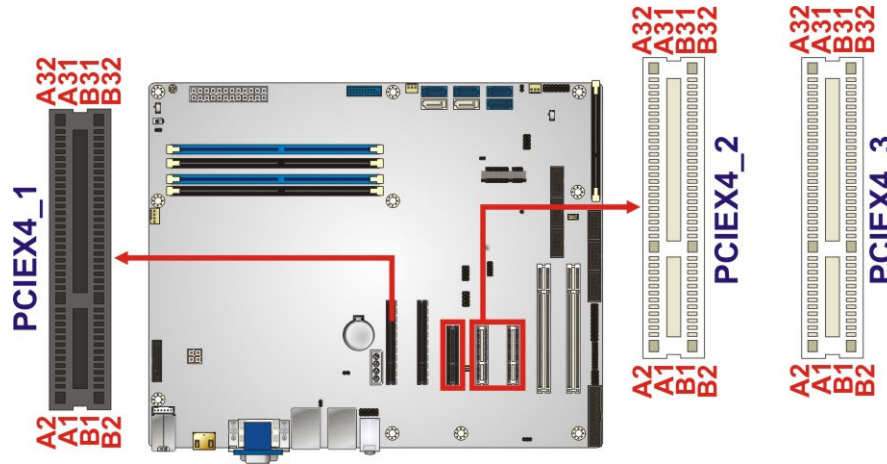

Figure 3-21: PCIe x4 Slot Locations
- CN Location:** See **Figure 3-21**